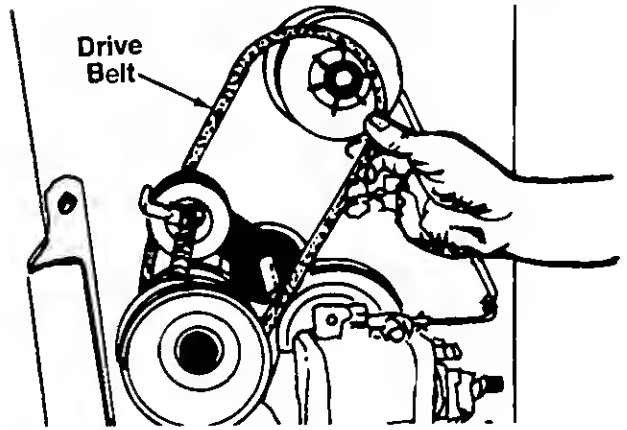

FIGURE 21.
9. Remove and replace the "V"-belt. See figure 21.